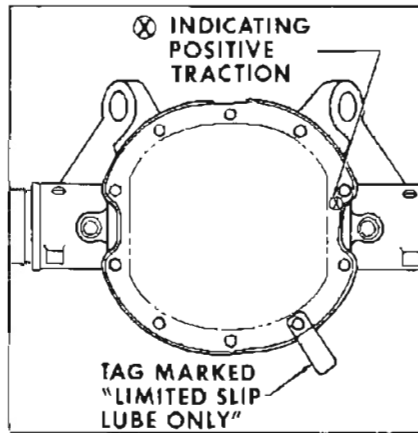

Figure 1-8—Differential Filler Plug (Positive Traction Shown)
6. Rear Axle. Check lubricant level after allowing time for lube to settle. Clean the surrounding area before removing filler plug. Level should be maintained at filler plug opening to 1/4" below by adding SAE 90 Multi-Purpose Gear Lubricant (MIL-L-2105-B). See Figure 1-8. When car is operated in temperatures continuously below - 10°F., use SAE 80 Multi-Purpose Gear Lubricant.
7. Positive Traction Differential Rear Axle. Identified by embossed tag around the differential filler plug, “Use limited slip differential lube only.” Check lubrication level after allowing time for lubricant to settle. Clean the surrounding area before removing filler plug. Level should be maintained at filler plug opening to 1/4" below by adding lubricant conforming to Buick Specification #723 only, as specified in paragraph I-9. See Figure 1-8.